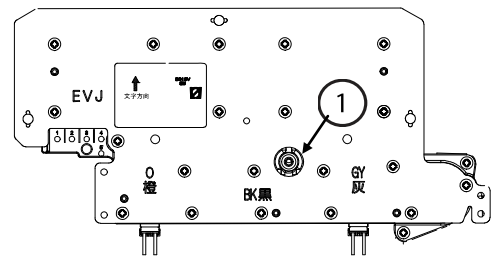

FIGURE 7
- 4) The manifold pressure will also have to be checked using a manometer (digital manometer is suggested). In order to check the gas manifold pressure, a tap is provided on the manifold plate inside the unit (Figure 7). The pressure can be checked either by removing the Philips head screw (1) and connecting a manometer with a silicon tube and connecting the appropriate pressure gauge. Be sure to zero out the manometer before attaching it to the tap.